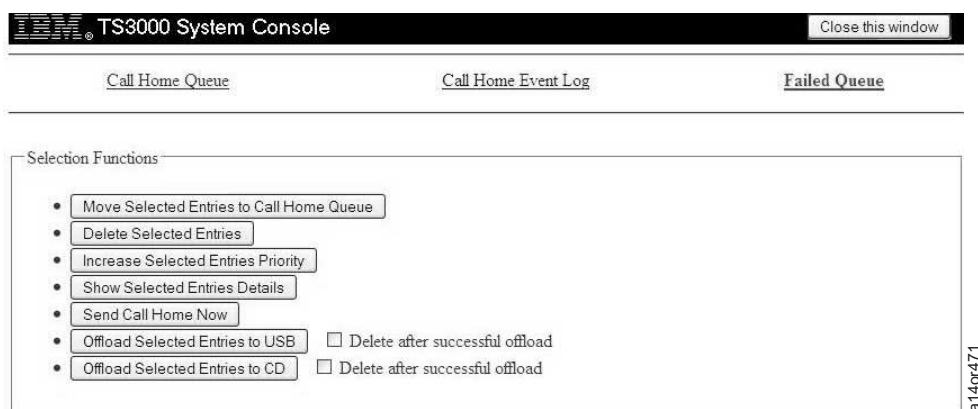

Figure 178. Call Home Queue Screen
5. Click **Failed Queue** at the top of the page. You see the screen shown in Figure 178.